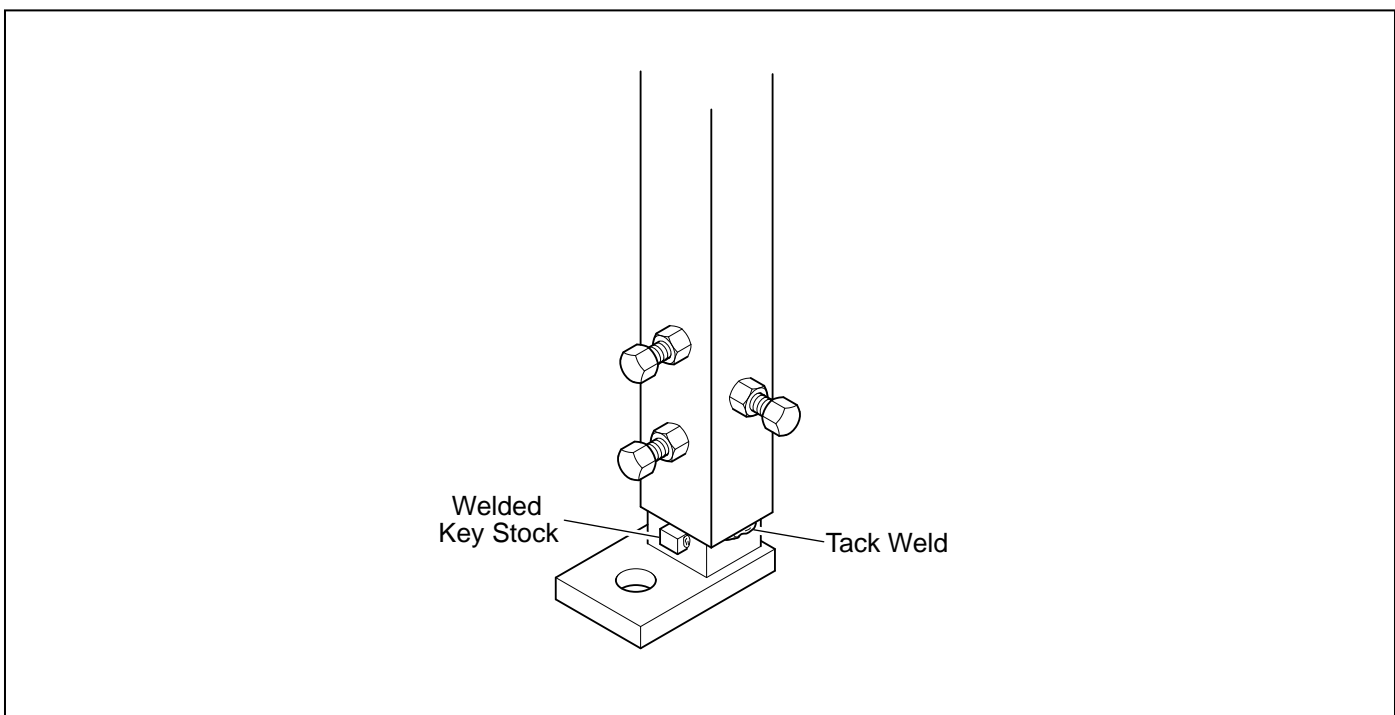

Figure 1.2 Leg Extension Adjustment
4. When the depalleter is in the proper orientation and at the proper height, loosen the three capscrews on each of the six legs to allow the extensions to slide down to the floor. Tighten all bolts on the legs to lock the extensions in place. For additional security, perform either of the following (see Figure 1.2):